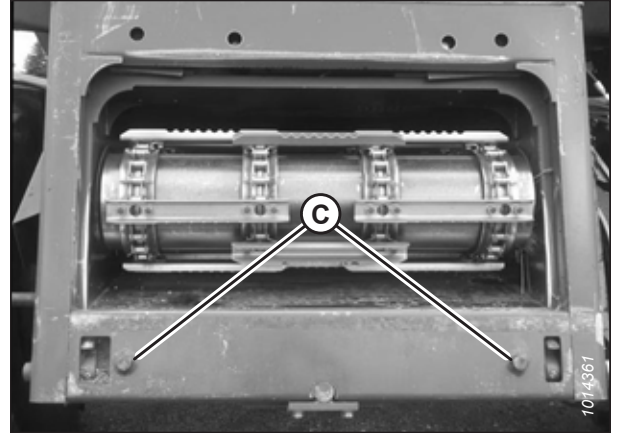

Figure 4.51: Alignment Pins
3. Start the engine and slowly approach the header until the feeder house is directly under float module top cross member (A) and alignment pins (C) (refer to Figure 4.51, page 367) on the feeder house are aligned with holes (B) in the float module frame.